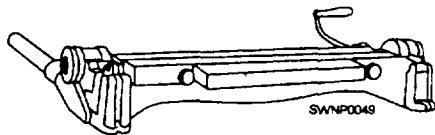
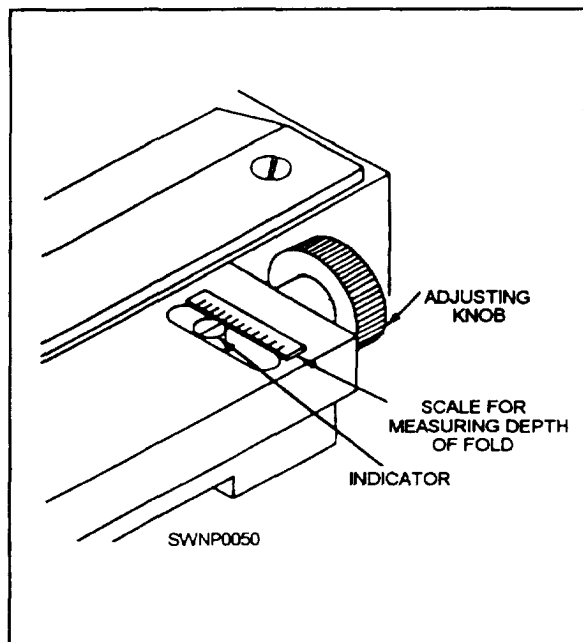
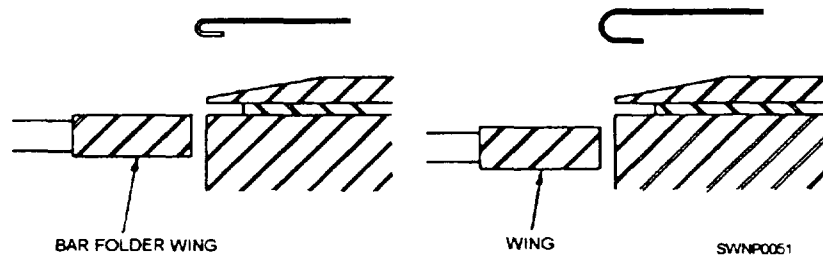

Figure 2-32.—Bar folder.
Figure 2-33.—Fold size depth gauge.
Figure 2-34.—Wing setting determines the tightness of fold.
**BAR FOLDER.**— The BAR FOLDER (fig. 2-32) is designed to bend sheet metal, generally 22 gauge or lighter. Bar folders are used for bending edges of sheets at various angles, for making channel shape (double-right angle folds), and for fabricating lock seams and wired edges. Narrow channel shapes can be formed but reverse bends cannot be bent at close distances. The width of the folder edge is determined by the setting of the DEPTH GAUGE (fig. 2-33). The sharpness of the folded edge, whether it is to be sharp for a hem or seam or rounded to make a wire edge, is determined by the position of the WING (fig. 2-34). Right-angle (90°) and 45-degree bends can be made by using the 90-degree and 45-degree ANGLE STOP.